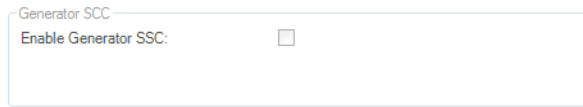

Figure 12 Generator SSC with Common Clock and Separate Ref Clock No SSC
- When **Common Clock** or **Separate Ref Clock No SSC** is selected in **Clock Architecture**, Generator SSC has only one setting, which is disabled, see Figure 12: